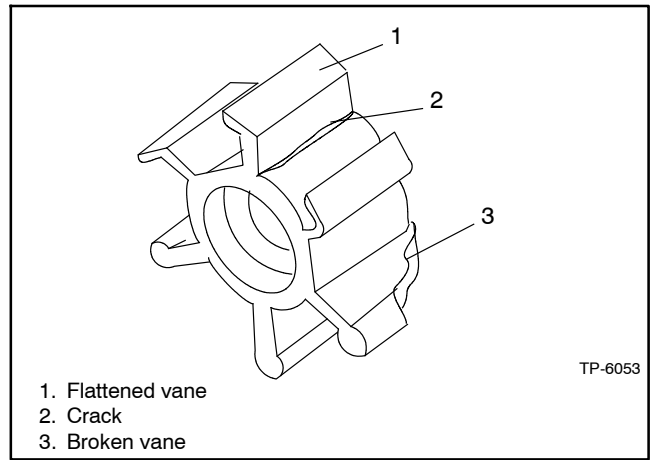

Figure 3-8 Worn Impeller
4. Inspect the impeller for damaged, cracked, broken, missing or flattened vanes. The impeller vanes should be straight and flexible. See Figure 3-8. Replace the impeller if it is damaged.